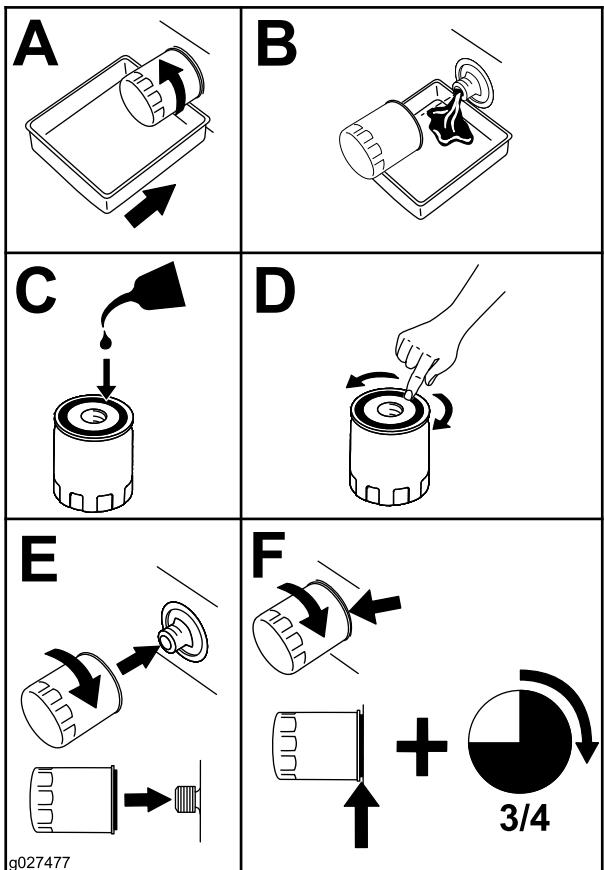

Figure 26
2. Change the engine-oil filter (Figure 26).